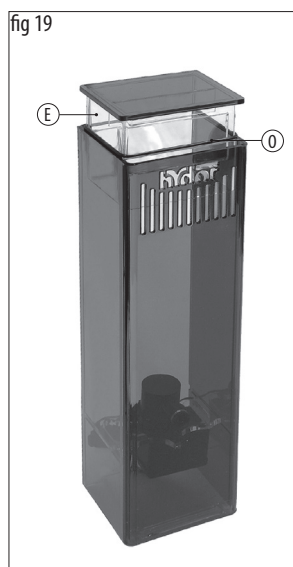

fig 20
- Position the small suction cups (S) on the back panel (C) – fig.20